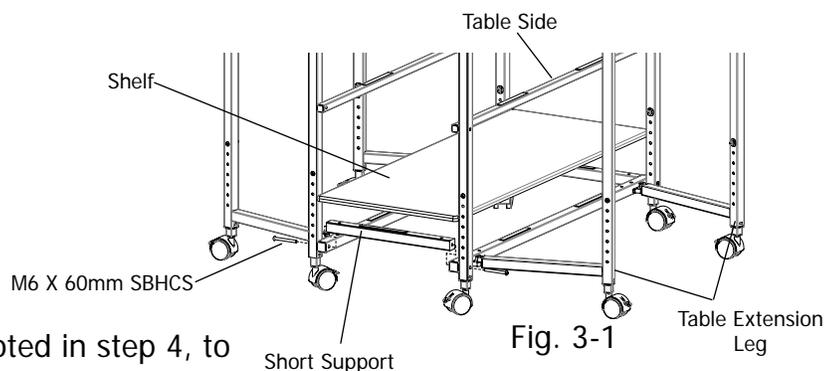

Fig. 3-1
3-1: Insert (2) M6 X 60mm SBHCS into the bottom holes on each Table Side and thread the screws into (2) Short Supports, as shown in Fig. 3-1.